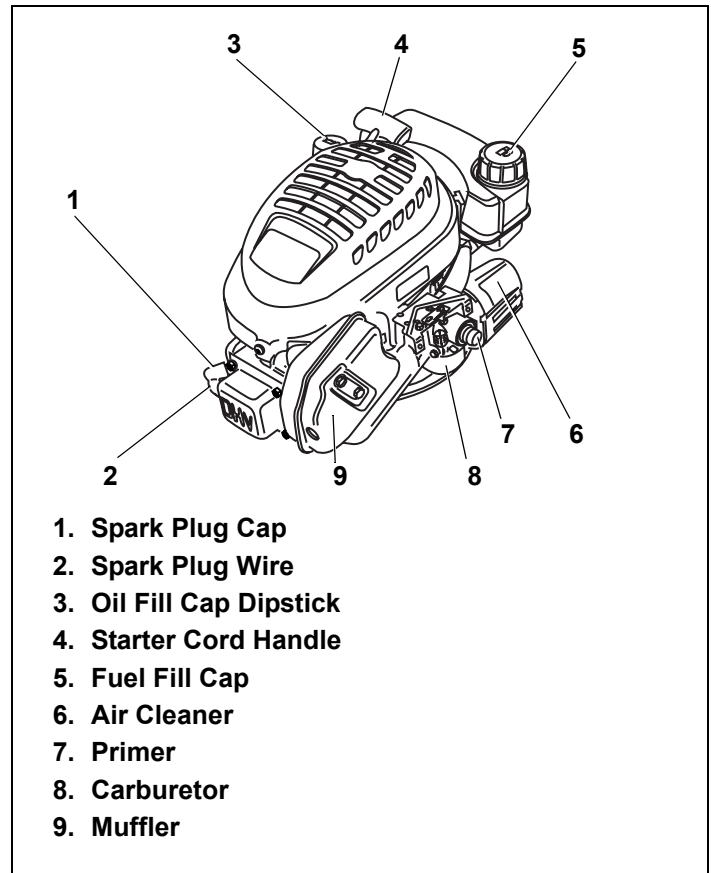

Figure 7. Engine With Oil Fill Dipstick
2. Unscrew oil fill cap dipstick from oil filler tube and wipe dipstick clean. See Figures 7 and 8.
3. Clean area around fuel fill cap and remove fuel fill cap. See Figure 7 on page 5. Afterward, continue reading instructions below.